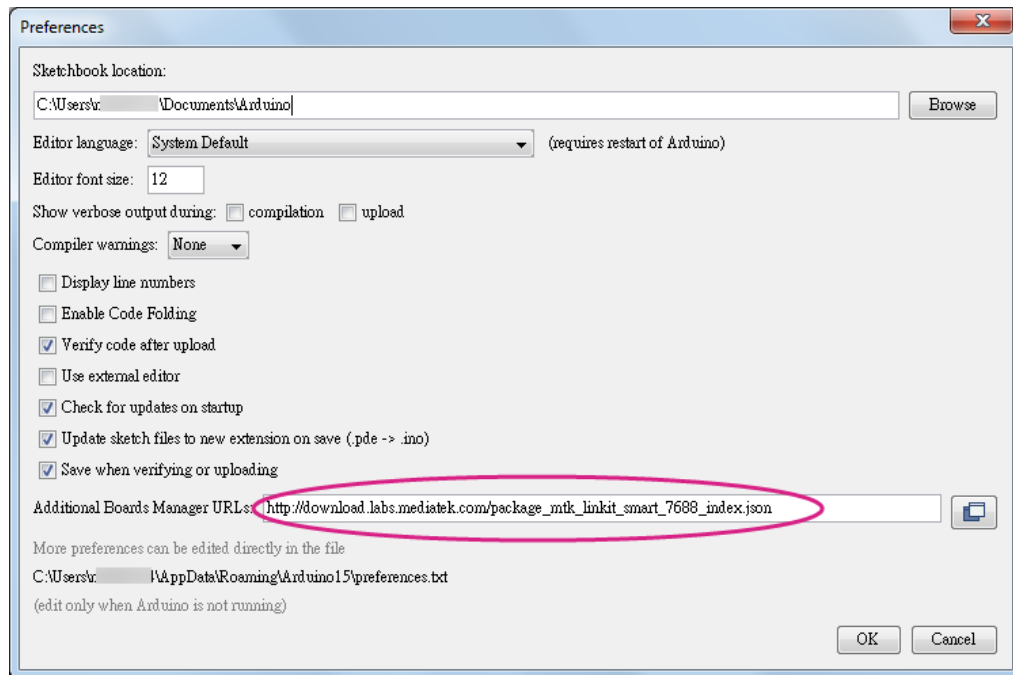

Figure 45 LinkIt Smart 7688 Duo package URL for a custom board installation in Arduino IDE
- 1) In Arduino IDE, on the **File** menu click **Preferences** then insert http://download.labs.mediatek.com/package_mtk_linkit_smart_7688_index.json to the **Additional Boards Manager URLs** field as shown Figure 45: